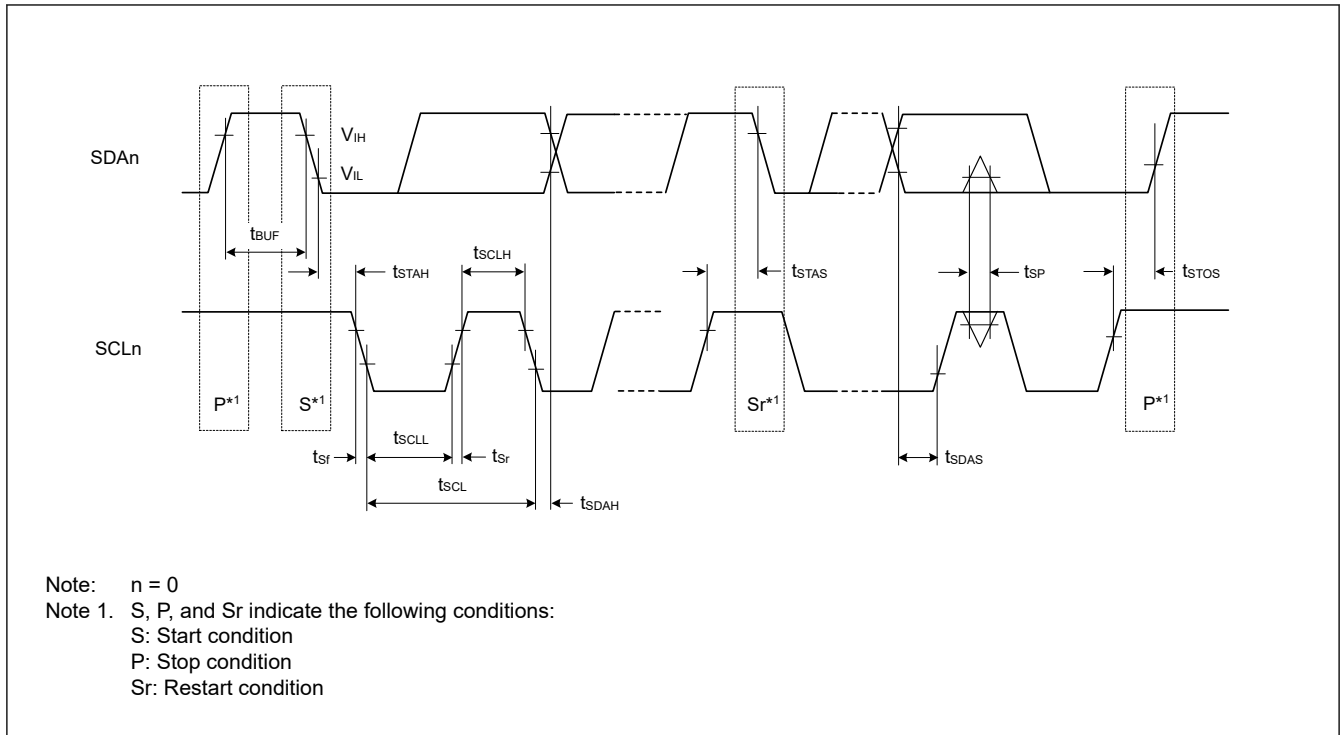

Figure 2.33 I2C bus interface input/output timing
| IIC (standard mode, SMBus) | SCL cycle time                          | $t_{SCL}$  | $6 (40) \times t_{IICcyc} + 4 \times t_{Pcyc} + 1300$ | —                          | ns   | Figure 2.33     |
| IIC (Fast mode)            | SCL cycle time                          | $t_{SCL}$  | $6 (40) \times t_{IICcyc} + 4 \times t_{Pcyc} + 600$  | —                          | ns   | Figure 2.33     |
| IIC(Fast-mode+) | SCL cycle time                          | $t_{SCL}$  | $6 (40) \times t_{IICcyc} + 4 \times t_{Pcyc} + 240$ | —                          | ns              | Figure 2.33 |
| IIC(HS mode)             | SCL cycle time  | t SCL   | 330 (+ 10 × t IICcyc )when PCLKD = 64 MHz390 (+ 10 × t IICcyc )when PCLKD = 48 MHz | —                           | 500 (+ 10 × t IICcyc )when PCLKD = 64 MHz*2560 (+ 10 × t IICcyc )when PCLKD = 48 MHz | —                           | ns   | Figure 2.33     |